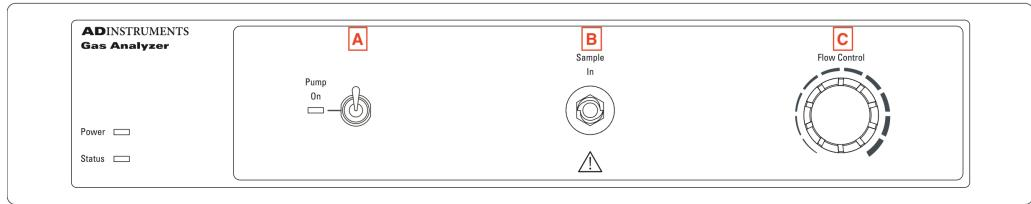

Figure 3: Schemes of the front panel of the ML206 Gas Analyzer, ADINSTRUMENTS^[4]
8. Connect the in-line filter^[4] to the *Sample In* (Fig. 3 B).
11. Switch the *Pump On* 30 minutes before your experiment to let the device warm up (front panel, Fig. 3 B).
12. Put the *Flow control* to the maximum aspiration strength to decrease the noise in the signal (front panel, Fig. 3 C).